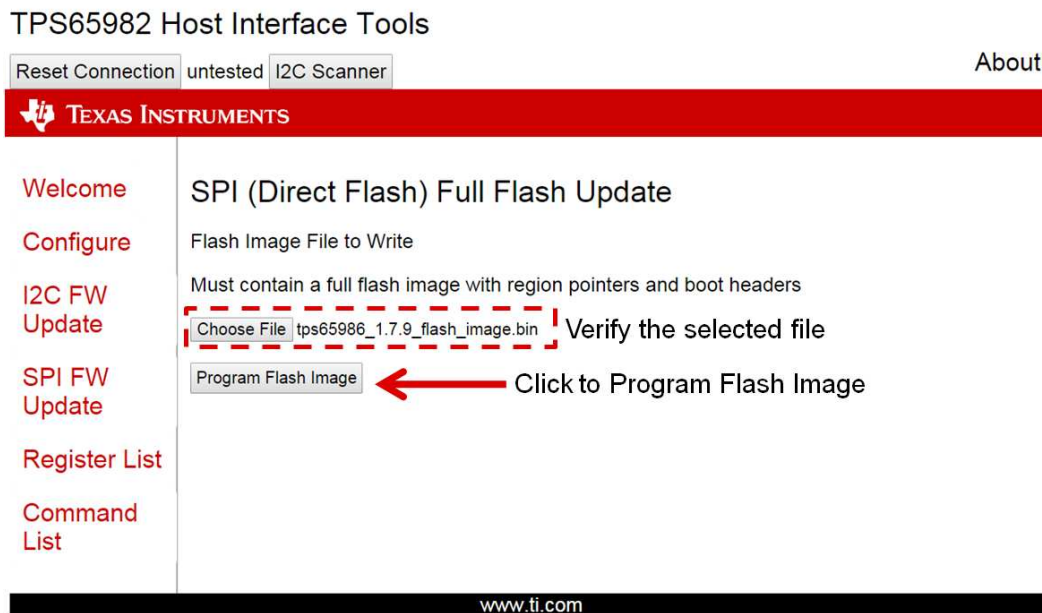

Figure 14. SPI Firmware Update – Start Flash Update
Step 7. Click the *Program Flash Image* (see Figure 14).